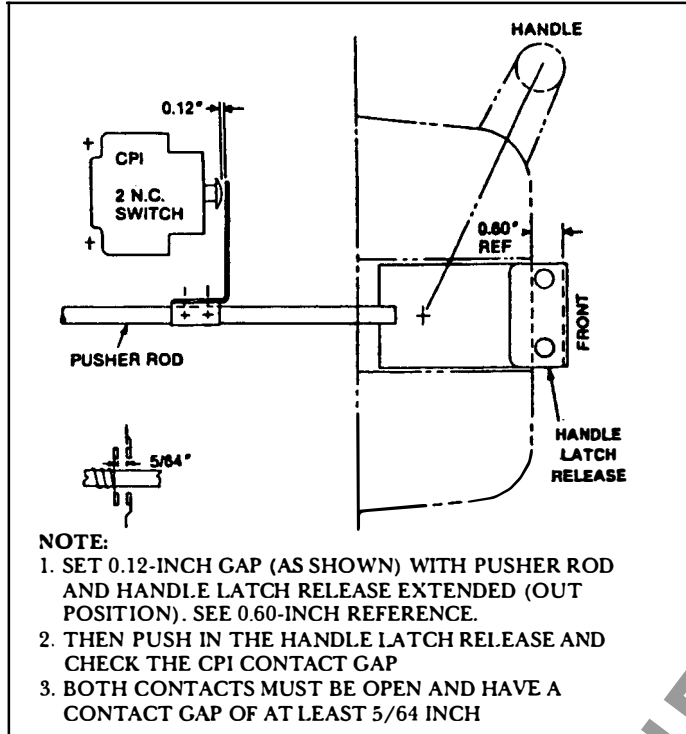

Figure 42. Checking for proper operation of pusher rod and control power interlock (CPI)
- B. Turn the top adjusting nut (W) until the interlock slider is just slightly below the handle latch release pusher rod (0.12 inches). See Figure 42 for location of pusher rod.
- C. When the proper position has been reached, hold the top adjusting nut (W) and tighten the bottom locking nut (X) to hold the adjustment. Finally, tighten the two locking nuts at the top of the armature interlock rod (Y).
Check the CPI adjustments as shown in Figure 42 and adjust if required.